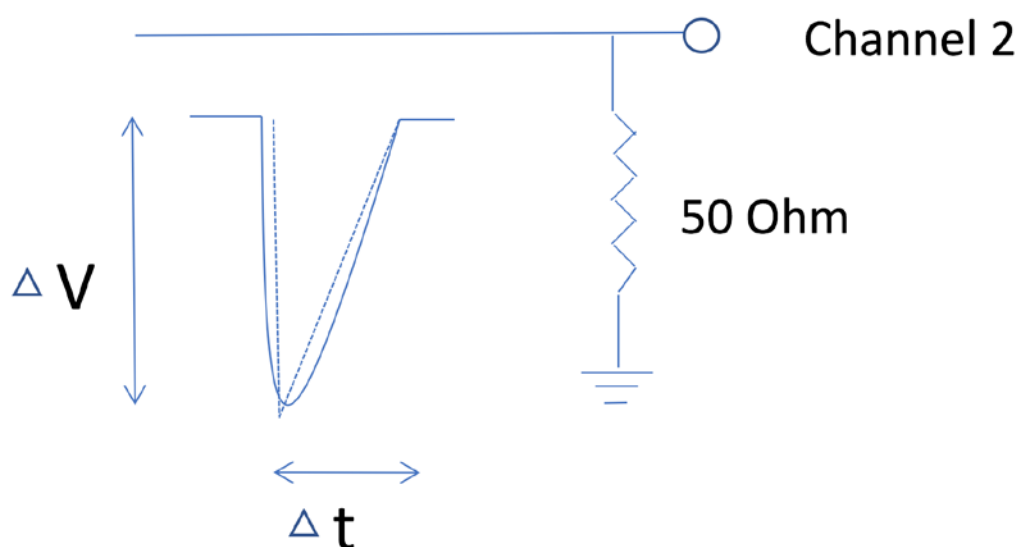

Figure 5. Input to the oscilloscope from a scintillation
20. Using channel 1 as a trigger, observe the analogue signal on channel 2. Channel 2 will then show the scintillator signals for the cosmic muons. Assuming that the signal is triangular, what is the charge of the signal? See Figure 5. Input to the oscilloscope from a scintillation5. **Note down the charge. You will need it again in exercise 4**